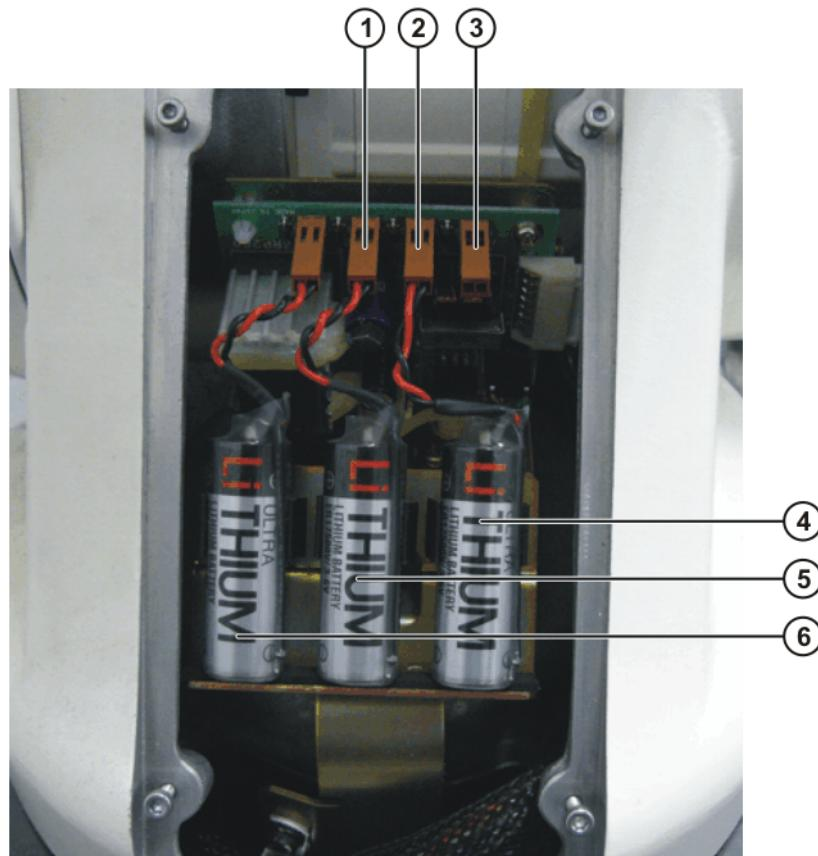

Fig. 10-3: Battery
4. Remove the battery (>>> Fig. 10-3) from the holder.